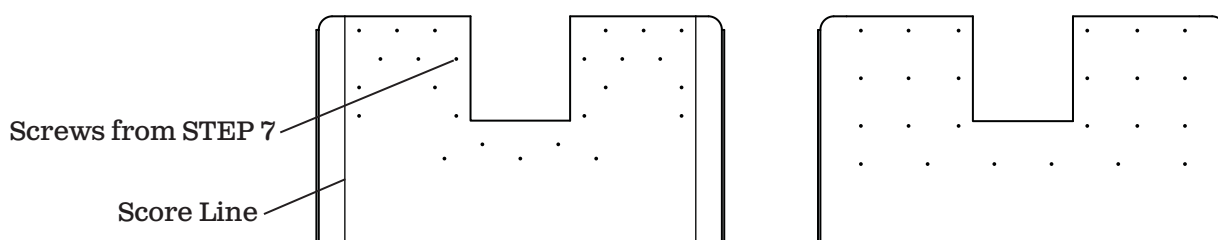

Figure 19
- 1) **Figure 19.** Must use a minimum of (25) 3/8" self-tapping screws. Lay out and mark pattern for bolts across the bulkhead and beside and behind the doghouse in staggered pattern at a minimum of 6" apart making sure holes are in cross members. Also place screws along score lines.
- 1) **Figures 19 & 20.** When using a combination of the two for every elevator bolts not used, use two self-tapping screws. Lay out and mark pattern across the bulkhead and around the doghouse at a minimum of 6" apart. Minimum distance from edge of liner and location of cross members will determine bolt pattern.